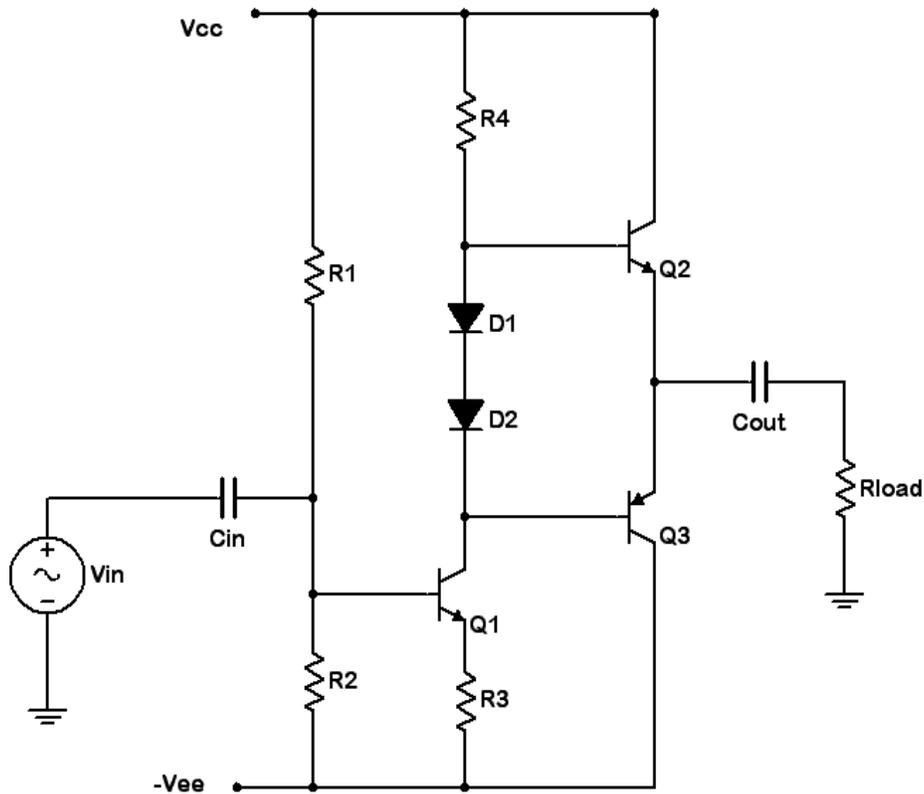

Figure 1
1. Consider the circuit of Figure 1 using  $V_{cc} = 6$  volts,  $V_{ee} = -6$  volts,  $R_1 = 6.8$  k $\Omega$ ,  $R_4 = 1$  k $\Omega$ ,  $R_3 = 100$   $\Omega$ ,  $R_{load} = 100$   $\Omega$ ,  $C_{in} = 1$   $\mu$ F and  $C_{out} = 100$   $\mu$ F.  $R_2$  is an adjustable resistance (pot or decade box). For proper bias, the emitters of the output transistors should be at 0 volts DC. For this to be true there must be a voltage of  $V_{cc} - V_{be}$ , or approximately 5.3 volts, across  $R_4$ . Ignoring base currents, this establishes the  $I_{CQ}$  of transistor 1 which in turn creates a potential drop across  $R_3$ . From this the voltage across  $R_2$  may be determined. Knowing the value of  $R_1$  and the total supply presented, Ohm's law or the voltage divider rule may be used to compute the required setting for  $R_2$ . Compute the required value for  $R_2$  and record it in Table 1.
4. Build the circuit of Figure 1 using  $V_{cc} = 6$  volts,  $V_{ee} = -6$  volts,  $R_1 = 6.8$  k $\Omega$ ,  $R_4 = 1$  k $\Omega$ ,  $R_3 = 100\Omega$ ,  $R_{load} = 100 \Omega$ ,  $C_{in} = 1 \mu F$  and  $C_{out} = 100 \mu F$ . Set the pot or decade box ( $R_2$ ) to the value calculated in Table 1. Disconnect the signal source and inspect the DC voltage at the load. Adjust  $R_2$  until this voltage goes to 0 volts. Record the resulting value of  $R_2$  in Table 1.